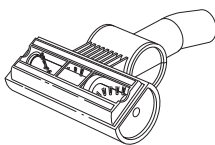

Fig. 30
- 3 Turn the turbo brush over to inspect the rotating brush and cut away any build-up of hair or string wrapped around the rotating bristle brush with scissors. (Fig. 30)